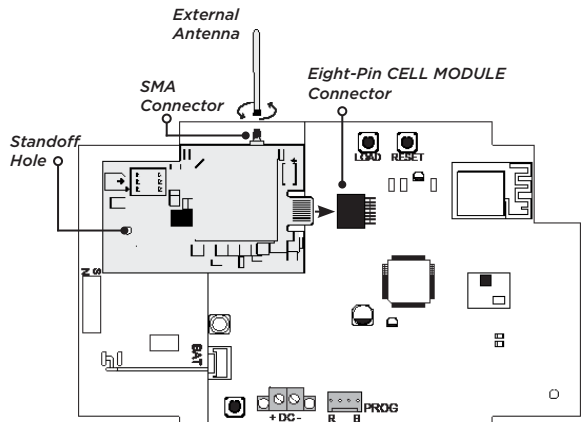

Figure 2: Installing the 265LTE on the XTLplus
3. Align the standoff hole in the 265LTE with the standoff on the XTLplus, and then snap it into place. See Figure 2.